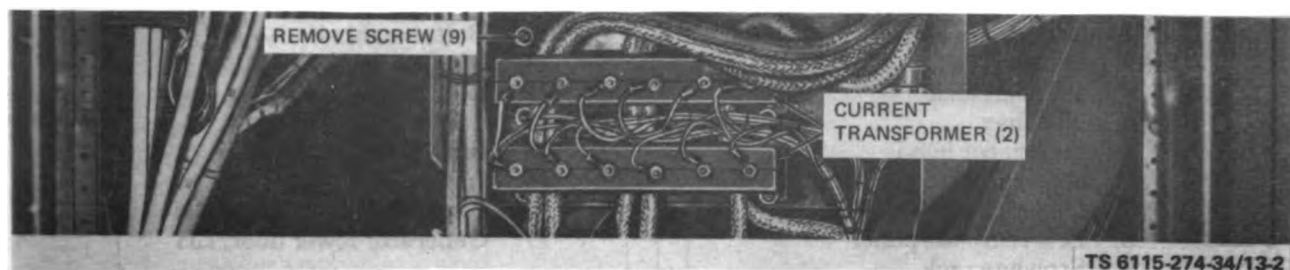

Figure 13-2. Current Transformers, Removal and Installation
(21) Remove load terminal board (refer to fig. 11-3), voltage conversion board (refer to fig. 11-1), and current transformers (fig. 13-2).